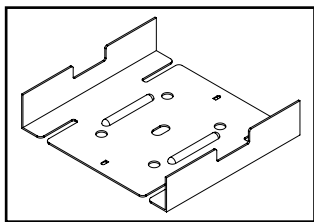

Fig. 5
1. For connecting ST2 models, use row aligner shown in (Fig. 5.)